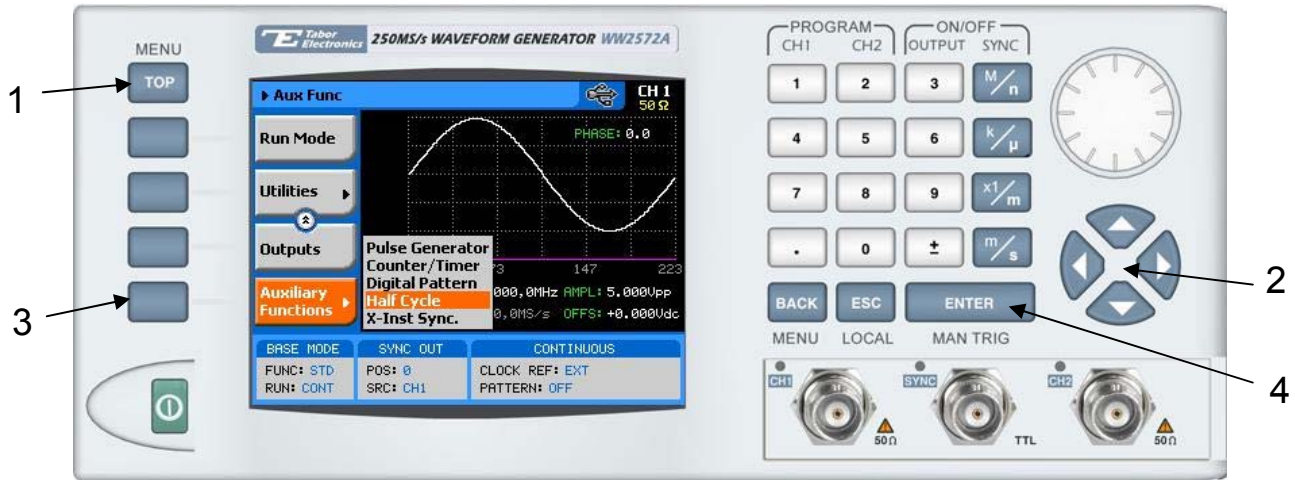

Figure 3-62, Accessing the Digital Pattern Menus
4. Press the Auxiliary Functions soft key and scroll down to highlight the Half Cycle option, as shown in Figure 3-62.